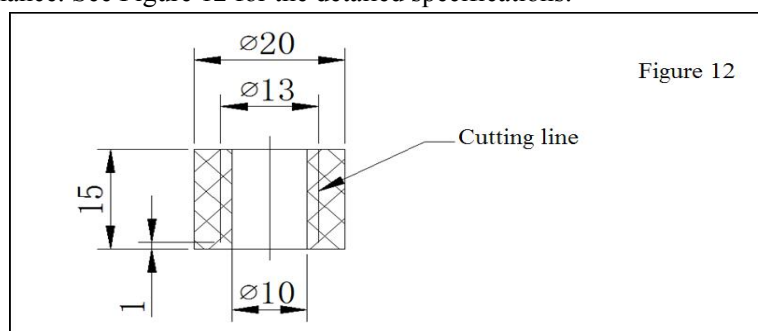

Figure 12
6. Aged sealing rings shall be replaced by one of the same specifications to ensure the explosion proof performance. See Figure 12 for the detailed specifications.